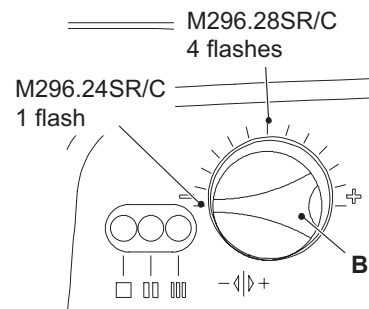

Figure 8.8
At this step it is possible to visualize the current setting by keeping the reset button D pressed for more than 5 seconds. The lamps F will flash a number of times corresponding to the setting Figure 8.8 (once for M296.24SR/C, four times for M296.28SR/C).
- 9 To change the setting turn the knob B on a position corresponding to the boiler models (Figure 8.8). By turning the knob B, the lock-out signal lamp E blinks quickly (2 per seconds) indicating that the setting has changed and must be memorised.